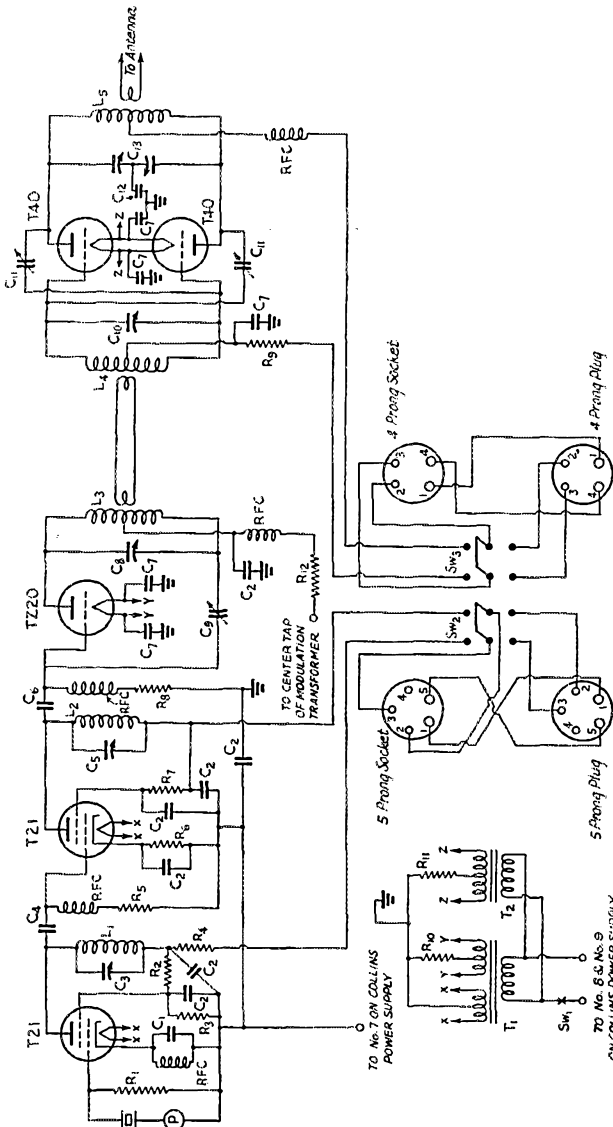

Fig. 1 — Circuit diagram of the 28-56 Mc. R.F. unit
A first glance at the circuit diagram of Fig. 1-A probably would suggest that such an unusual-looking arrangement would not be electrically balanced — at least, not in an actual assembly with all required connections. But closer study of the photograph and circuit will show that the
Fig. 1—Actual connections of the 5-band tank circuits (A and C) with their corresponding simplified equivalents at the right (B and D). A and B are balanced circuits for push-pull or plate neutralized amplifiers, C and D single-ended circuits.
The combination 5-band tank may be a balanced or unbalanced arrangement, depending on the circuit in which it is used. For the plate circuits of transmitting triodes, single or push-pull, and for all push-pull plate circuits with screen-grid, beam-power, and pentode tubes, the balanced arrangement of Fig. 1-A is preferable. The unbalanced tank is suitable for the grid circuits of single-tube r.f. stages, but the balanced arrangement is much more suitable for push-pull grid circuits. The double links mentioned above are suitable for coupling a single-ended plate tank to a balanced grid or antenna tank, or for coupling a balanced plate tank to an unbalanced grid tank.
- Fig. 1 — Circuit diagram of the 28-56 Mc. R.F. unit**